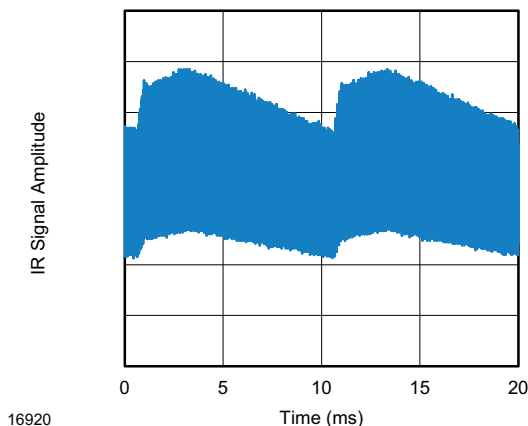

Fig. 13 - IR Emission from Fluorescent Lamp With Low Modulation
- Strongly or weakly modulated patterns from fluorescent lamps with electronic ballasts (see Fig. 13 or Fig. 14)